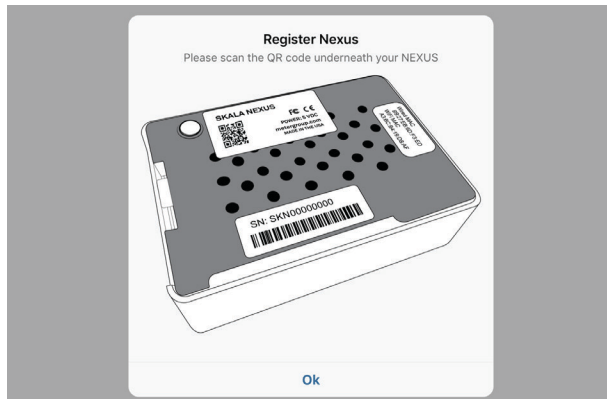

Figure 13 Register NEXUS window
3. Select **Ok** in the Register NEXUS popup window (Figure 13).